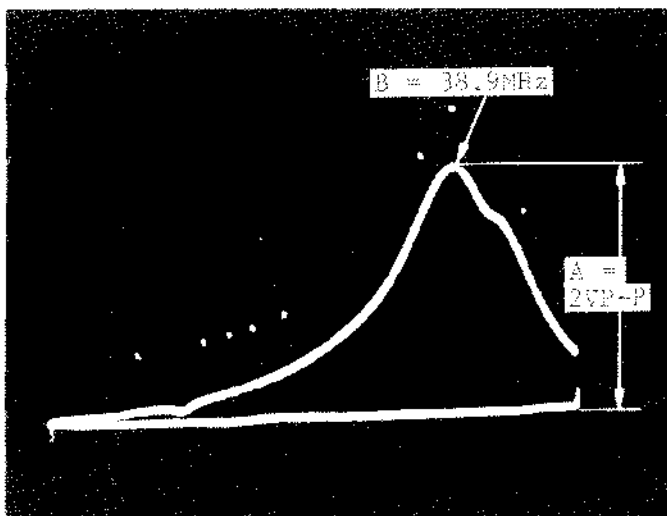

Fig. 55
4. Adjust T703 so that the 38.9MHz becomes peak point as shown in Fig. 55.